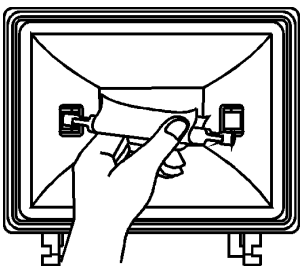

FIGURE 5
- (5) Unwrap the halogen bulb, taking care that the fingers do not touch the glass. Push one end into either of the spring loaded sockets. Locate other end on other socket and release.(FIGURE 5)